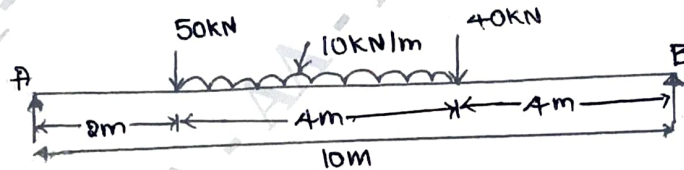

Fig. Q4 (a)
- 4 a. A simply supported beam of length 10 m, carries the uniformly distributed load and two point loads as shown in Fig. Q4 (a). Draw the S.F and B.M diagram for the beam. Also calculate the maximum bending moment.